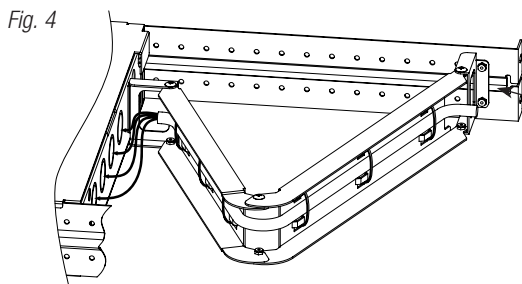

Fig. 4
5. Attach the hinge bracket on the longer side of Z Bracket to the adjustable slide using bolts and lock nuts (included) (*Fig. 4, 4a, pg. 4*).